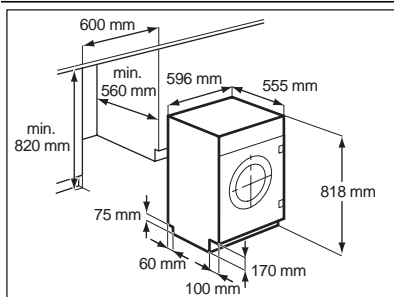

Fig.1
- This appliance has been designed to be built into the kitchen furniture. The recess should have the dimensions shown in Fig 1.